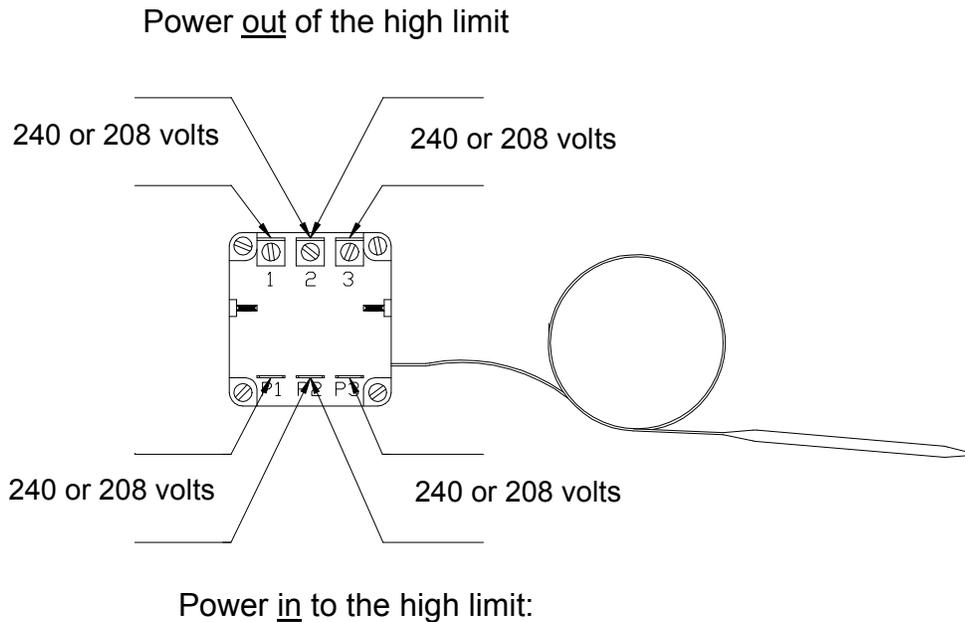

Figure L2
**Troubleshooting with the power on: See Figure L2**